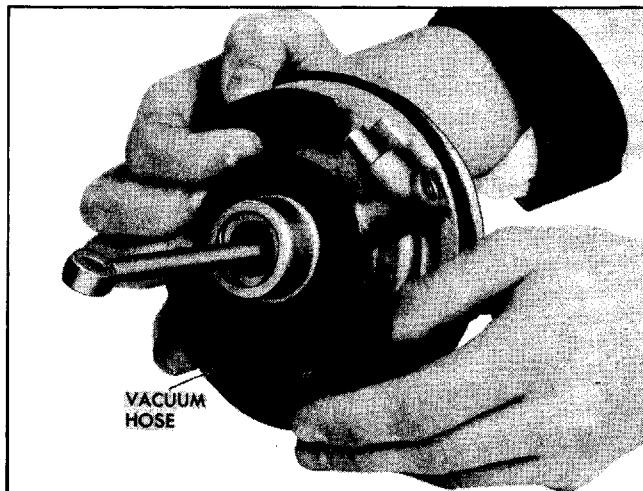

Fig. 5-51 Removing or Replacing Vacuum Hose at Power Piston
1. Remove vacuum hose from power piston assembly if it is to be replaced. NOTE: Hose is cemented to tube (Fig. 5-51).